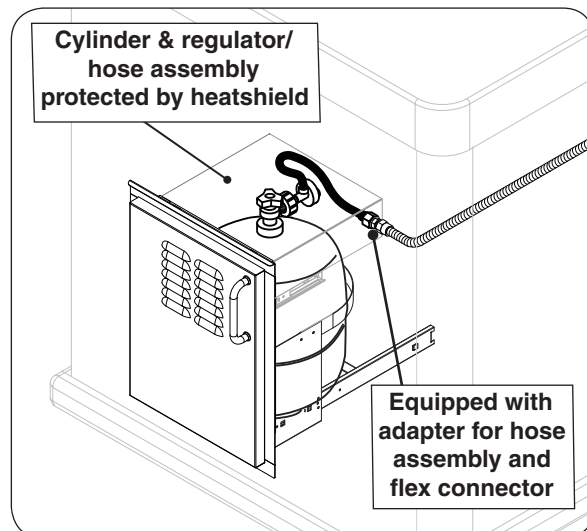

Fig. 13-3 Optional RHP door w/tank tray
- **RHP offers a propane cylinder door with tank tray to meet the cylinder install requirements. See Fig. 13-3.**